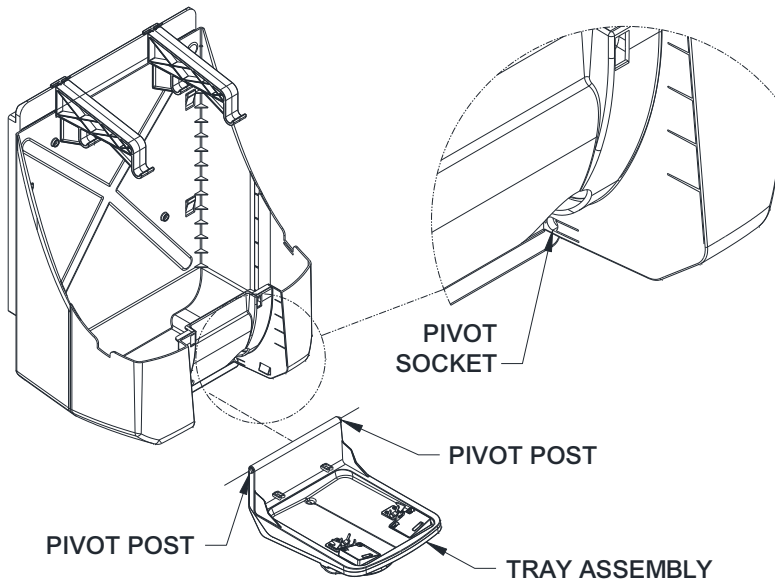

Figure 5
Step 4. Tray Assembly (Ref Figure 5) *Lower Insulated Jacket not shown for clarity.*